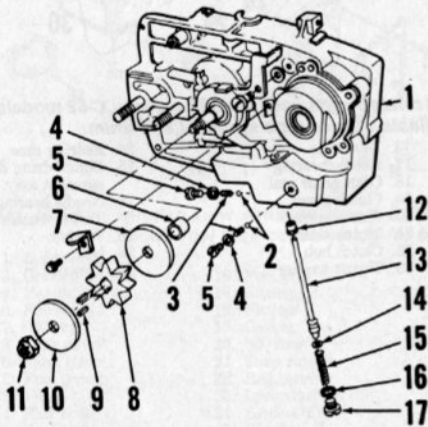

Fig. HL65—View showing chain drive sprocket and manual oiler pump components removed on models shown in Fig. HL64.
Fig. HL64—Exploded view of gear drive assembly used on Models S1130G and 3100G. Refer to Fig. HL65 for view of opposite side of gearcase and chain drive sprocket. Ratios of 2:1 and 3:1 can be obtained by changing gear (13) and repositioning idler gear assembly to accommodate the different gear diameter. The 2:1 ratio gear has 42 teeth and the 3:1 ratio gear has 64 teeth.
To remove the sprocket shaft, unbolt and remove the oil pump housing and discard the two "O" rings (4—Fig. HL64). Hold sprocket (8—Fig. HL65) from turning and remove nut (11), outer washer (10), sprocket and keys, inner washer (7), spacer (6), then push